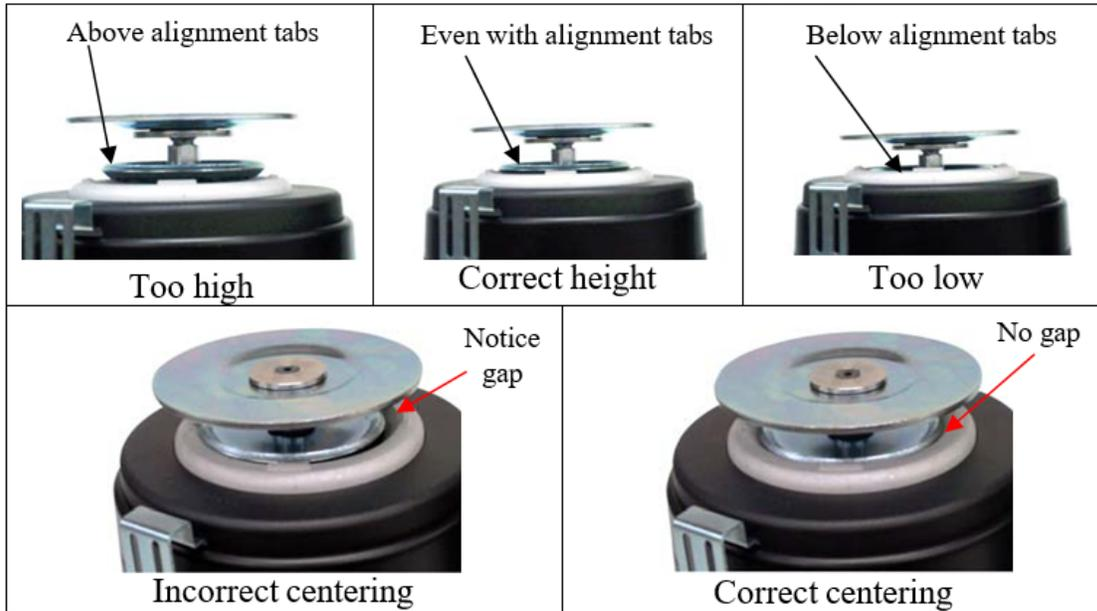

Figure 11 — Floating Height Adjustment and Centering
1. After the table floats, check the position of the centering guide and flange of all isolators. The gap between the guide and flange should be $1/4" \pm 1/16"$ (6 mm \pm 1.5 mm). The center of the isolator centering disk should be aligned with the float height indicator tabs (Figure 11).
2. Isolators that float too high, too low, or are not centered may conduct floor vibration to the table top. Refer to Section 3.3.2. (Figure 11) Centered isolators will remain centered unless the table and isolators are moved relative to each other.